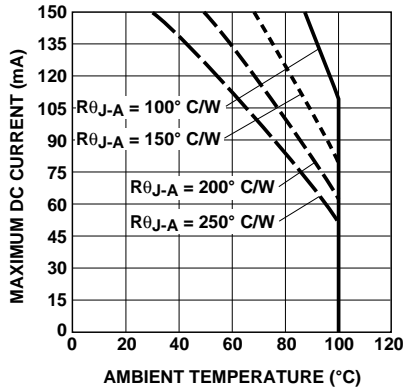

Figure 3a. HPWS-xx00 Maximum DC Forward Current vs. Ambient Temperature.
2. Derate linearly as shown in Figure 3a.